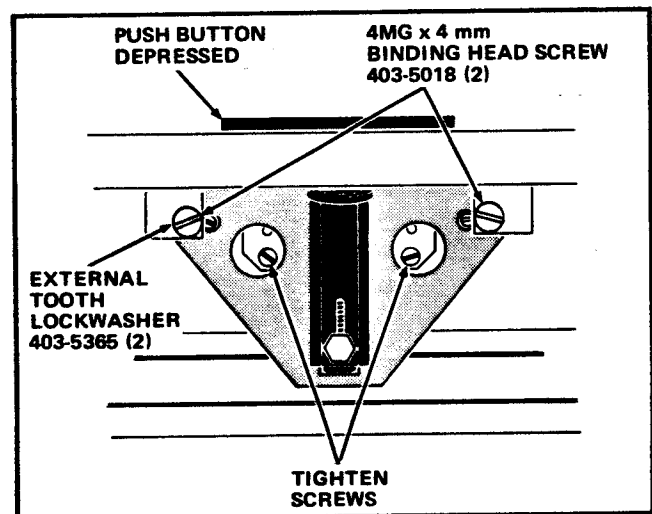

FIGURE 26
12. Depress the Push Button and tighten the 2 Screws that retain the Cable on the Push Button and Bracket Assembly. See Figure 26.
13. Center the Push Button Assembly in the Channel and attach the Push Button Assembly to the Channel with the two 4MG x 4 mm Binding Head Screws, Part Number 403-5018, and the two big External Tooth Lockwashers, Part Number 403-5365, both included in the Kit. See Figure 26. These Screws attach the replacement Push Button Assembly in the same way the original Push Button Assembly was attached, through the Channel tabs.